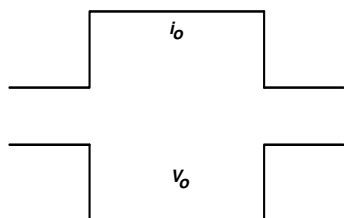
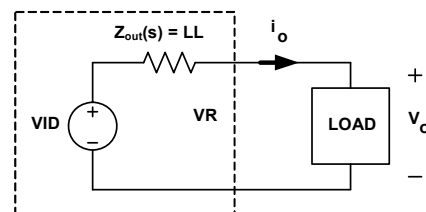

FIGURE 22. DESIRED LOAD TRANSIENT RESPONSE WAVEFORMS
FIGURE 28. VOLTAGE REGULATOR EQUIVALENT CIRCUIT
Assuming the compensator design is correct, Figure 22 shows the expected load transient response waveforms if C_n is correctly selected. When the load current I_{core} has a square change, the output voltage V_{core} also has a square response.
Figure 22 shows the desired load transient response waveforms. Figure 28 shows the equivalent circuit of a voltage regulator (VR) with the droop function. A VR is equivalent to a voltage source ($= \text{VID}$) and output impedance $Z_{\text{out}}(s)$. If $Z_{\text{out}}(s)$ is equal to the load line slope LL, i.e., a constant output impedance, then in the entire frequency range, V_o will have a square response when I_o has a square change.